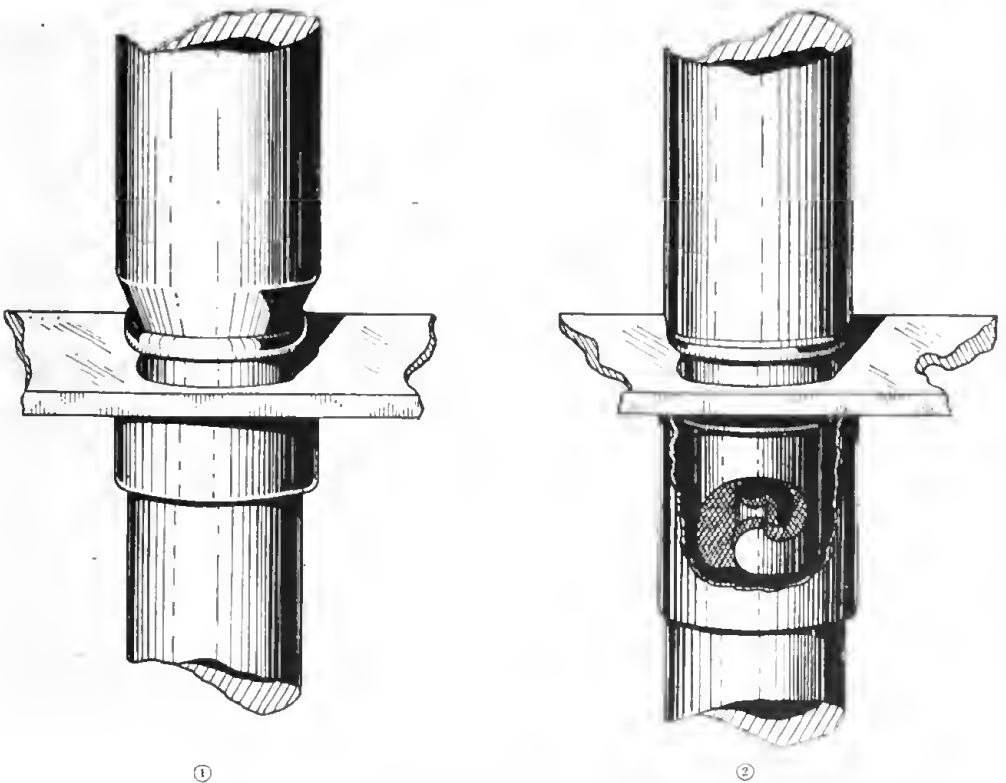

Figure 150. Replacing Dzus fastener grommet.
(1) *Dzus fasteners.* A set of these tools consists of a beveled punch, a hollow anvil, and a square-ended driving tool. The new grommet is placed in the hole, and the head of the grommet is placed on the anvil. The skirt of the grommet is then spread slightly with the beveled punch. (See fig. 150①.) The fastener is then inserted in the grommet with its end extending into the hollow anvil. The square-ended driving tool is then used against the head of the fastener to spread the grommet and peen it tightly against the sheet. (See fig. 150②.)